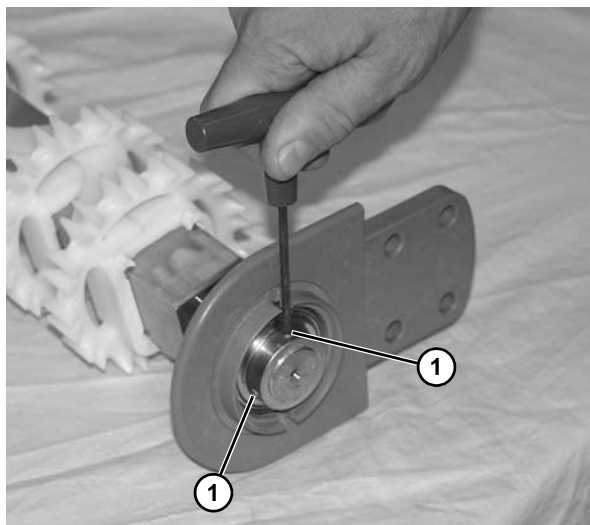

Figure 49
7. Loosen two set screws (**Figure 49, item 1**).